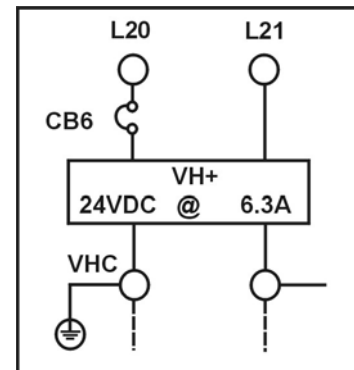

Figure 2-2
- 2) An independent, emergency backed, single-phase 120 VAC circuit is common to all drive types (for the first controller of each group only) [See Figure 2-2.]